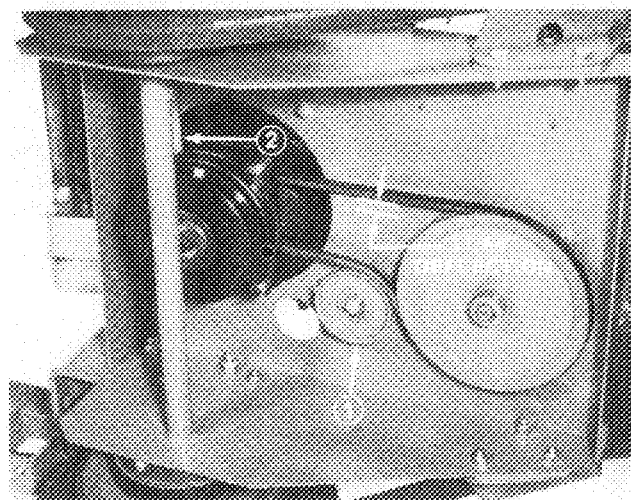

Figure 1
10. Loosen capscrew and flange nut securing idler pulley to frame (Fig. 1). Slide pulley outward relieving tension on traction belt.
11. Remove left front engine mounting bolt securing clutch retainer to frame (Fig. 1). Unhook retainer from clutch and remove retainer.
12. Make sure in-line clutch connector is disconnected and remove traction belt from clutch. (Fig. 1). Remove grommet in frame hole allowing clutch connector to pass thru when removing clutch.
21. Position and secure idler pulley to frame so belt deflection is not more than $11/64$ " when 5 1/2 lbs. of force is applied to midspan of long leg of belt (Fig. 1).
23. Align control panel with (2) existing holes in left side of upper handle. Using control panel as a template, mark and drill (2) $7/32$ " dia. holes thru right side of upper handle (if applicable).